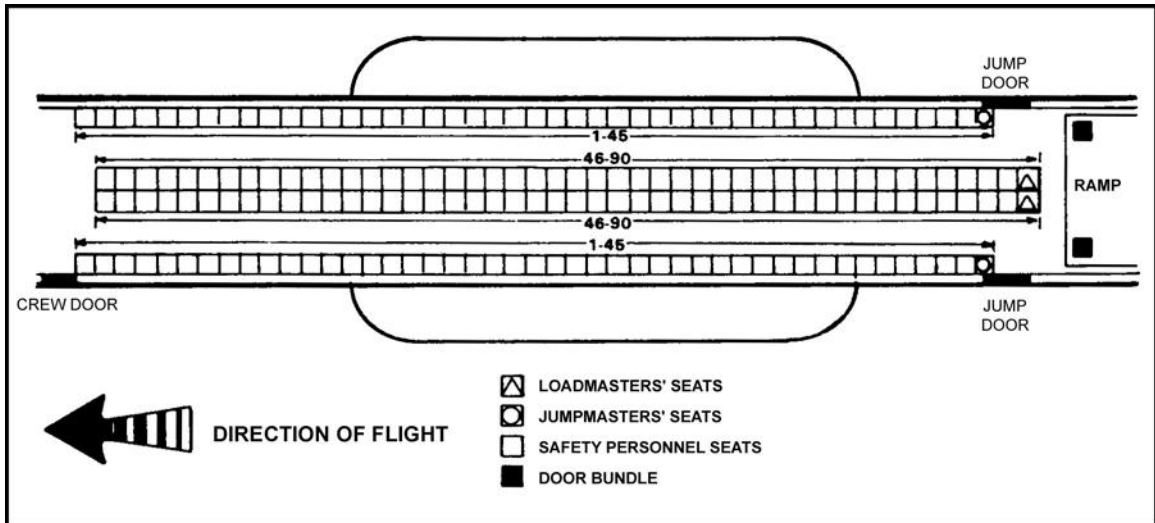

Figure 16-11. C-141B configured for combat load (182 seats).
In this configuration, the C-141B seats 182 personnel: 180 parachutists and 2 loadmasters (Figure 16-11). Personnel are seated on the side-facing seats on 20-inch centers. Parachutists (180) are seated in two sticks of 90 each on the left and right sides. If 45 parachutists cannot be seated on the outboard seats, the overflow may be seated inboard aft on available center seats. The JM must ensure that only 45 parachutists hook up to the outboard/inboard anchor cables.